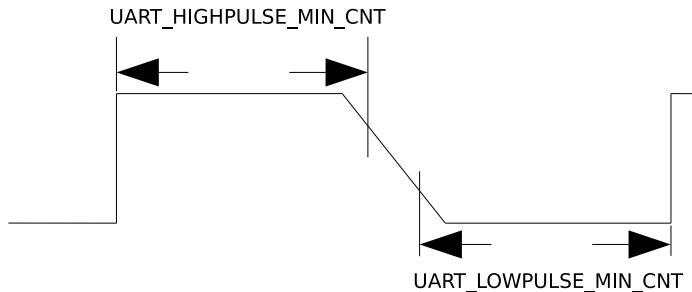

Figure 24-4. The Timing Diagram of Weak UART Signals Along Falling Edges
2. If UART signals are weak along falling edges as shown in Figure 24-4, which leads to inaccurate average of UART_LOWPULSE_MIN_CNT and UART_HIGHPULSE_MIN_CNT, use UART_POSEDGE_MIN_CNT to determine the transmitter's baud rate as follows: